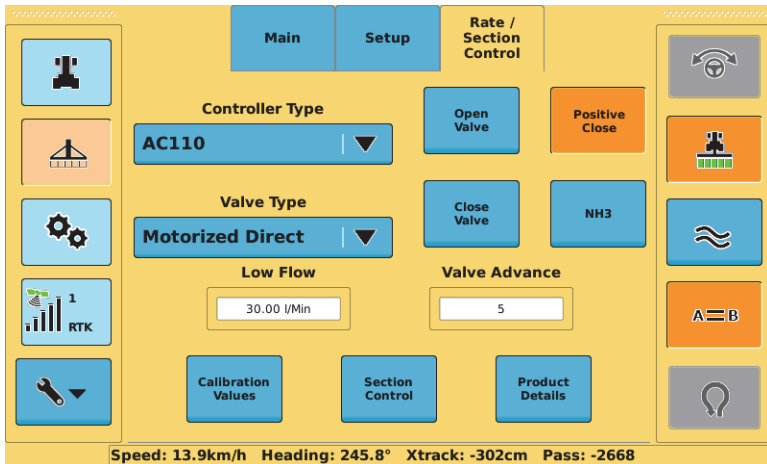

Figure 7-2: Rate Control screen
2. Press **Rate Control**. The Rate Control screen appears (Figure 7-2 above—when you first display this screen no values will be selected or entered).
2. Press **Rate Control**. The Rate Control screen appears (see Figure 7-2 on page 135).